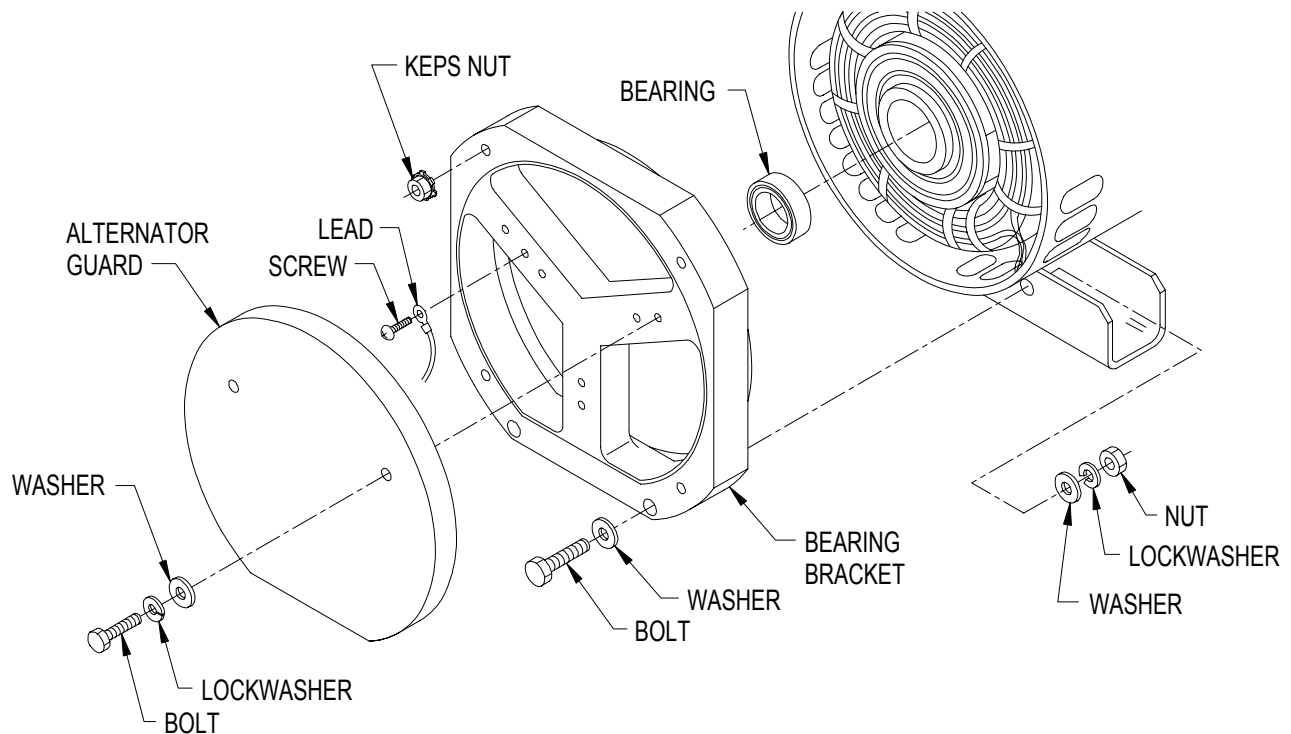

Figure 5-40. AC Alternator Bearing
- (1) Remove control panel assembly, refer to paragraph 4.20.b.
- (2) Remove bolts (Figure 5-40), lockwashers, washers and alternator guard from alternator.
- (3) Tag and disconnect electrical leads secured by screws.
- (4) Remove nuts, lockwashers, washers, bolts, and bearing bracket from alternator.
- (5) Using suitable puller, pull bearing from alternator rotor.
- (1) Press bearing (Figure 5-40) into alternator rotor.